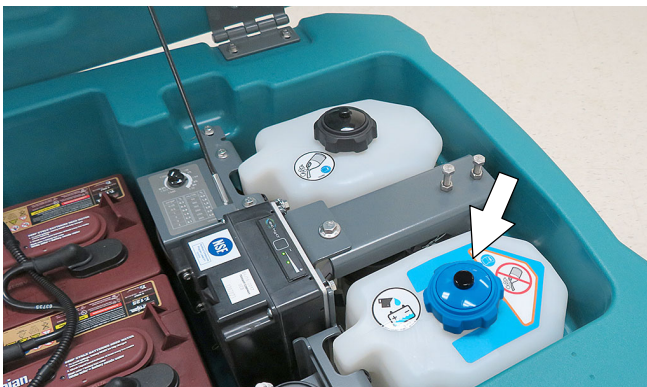

FIG. 28
1. Lift the recovery tank to access the automatic battery watering tank (Figure 28). Drain recovery tank before lifting tank.